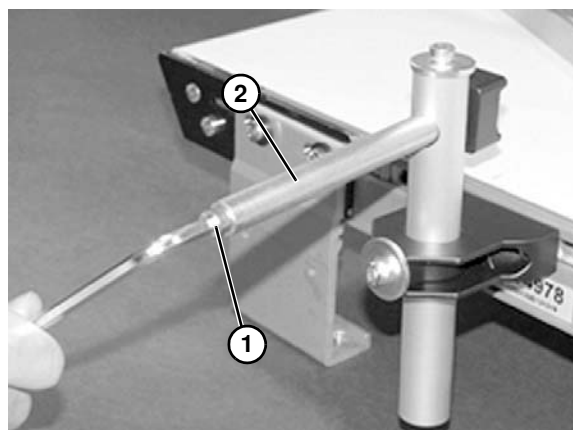
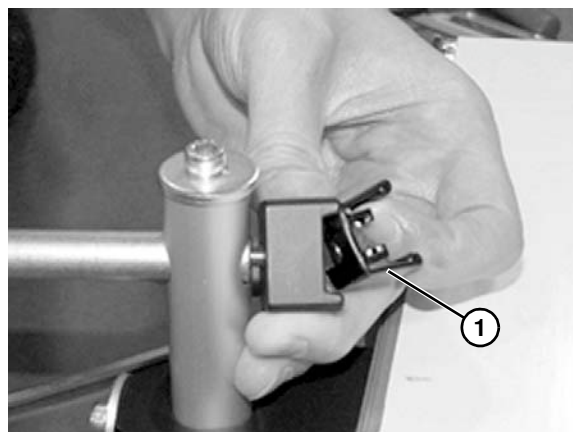
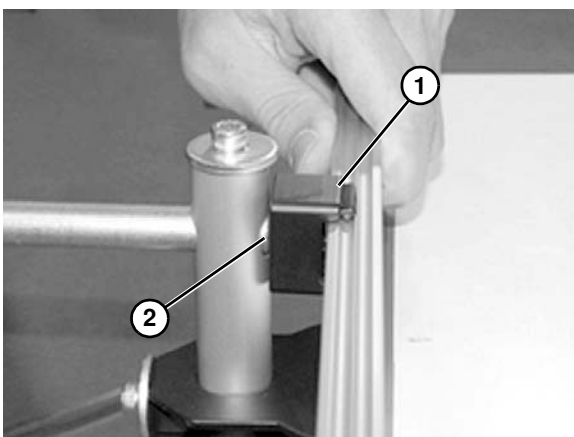

Figure 31
Figure 32
Figure 34
3. Loosen screw (**Figure 31, item 1**) on end of shaft (**Figure 31, item 2**) to remove clip (**Figure 32, item 1**).
5. Reassemble clip (**Figure 34, item 1**) and attach to shaft (**Figure 34, item 2**). Tighten screw (**Figure 31, item 1**) on end of shaft.